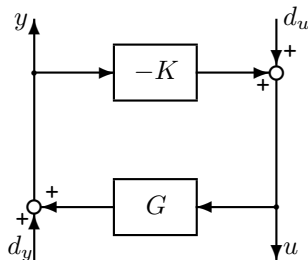

Figure 8: Block diagram used to check internal stability of feedback system
*The feedback system in Figure 8 is **internally stable** if and only if all four closed-loop transfer matrices in (69) and (70) are stable.*
*Assume there are no RHP pole-zero cancellations between  $G(s)$  and  $K(s)$ , i.e. all RHP-poles in  $G(s)$  and  $K(s)$  are contained in the minimal realizations of  $GK$  and  $KG$ . Then, the feedback system in Figure 8 is internally stable if and only if one of the four closed-loop transfer function matrices in (69) and (70) is stable.*